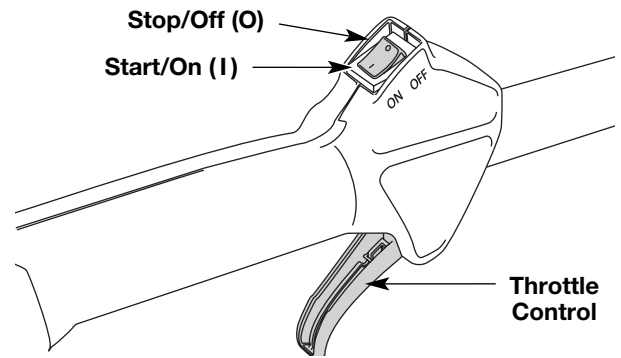

Fig. 9
**NOTE:** There is no need to turn the unit on. The On/Off Stop Control is in the ON (I) position at all times (Fig. 9).